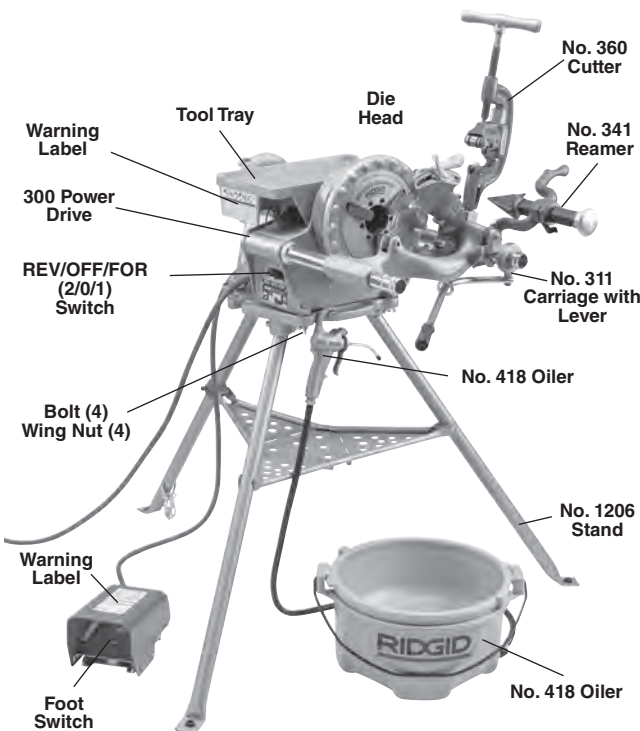

Figure 2 – Model 300 Power Drive Complete
4. Place the 300 Power Drive on the stand and secure with the supplied fasteners (*Figure 2*).